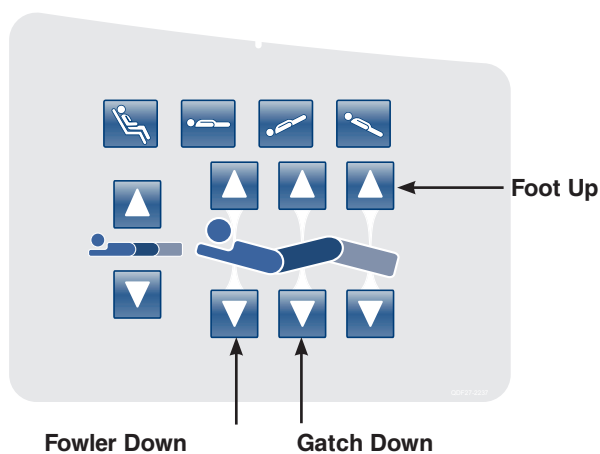

Figure 6: HE Siderail Control Panel - (Right Side Shown)
- Place the Litter surface to a flat position by pressing simultaneously the **Foot Up**, **Fowler Down** and **Gatch Down** buttons as shown in Figure 6.